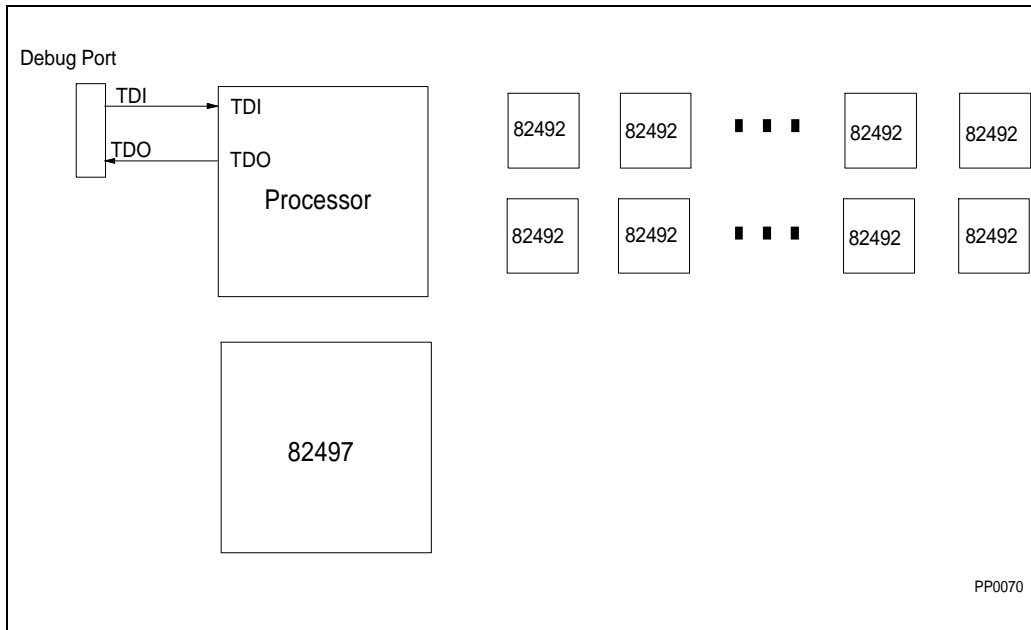
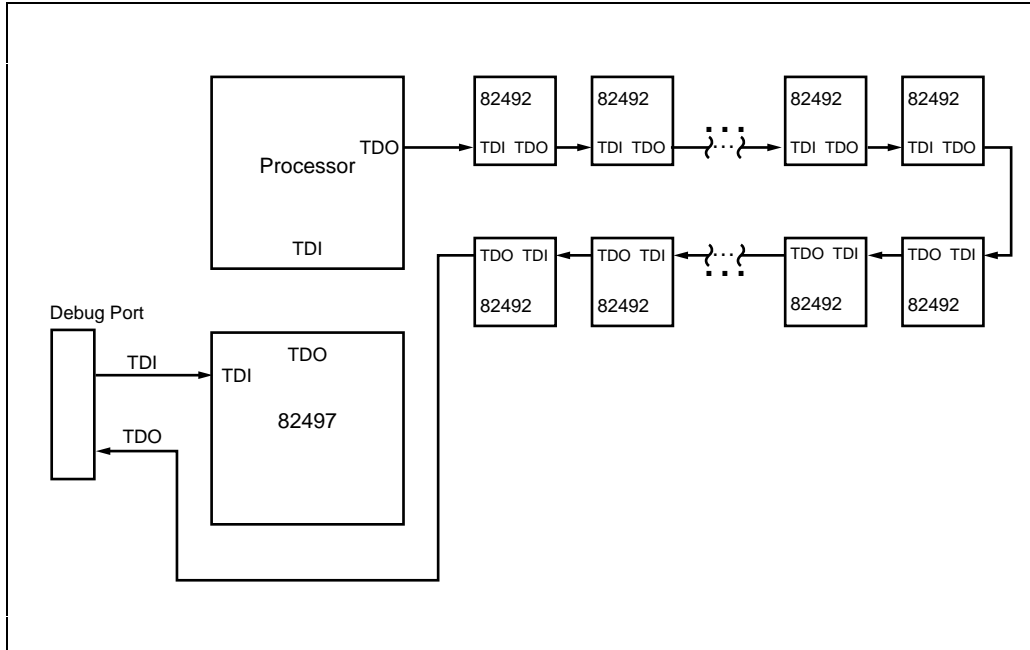

Figure 31-6. Example of CPU Only in Scan Chain
Figure 31-7. Example of Multiple Components in Scan Chain
The debugger software communicates with the CPU through the debug port using the boundary scan signals listed above. Typically, the debugger expects the CPU to be the first and only component in the scan chain (from the perspective of the debug port). That is, it expects TDI to go directly from the debug port to the TDI pin of the CPU, and the TDO pin to go directly from the CPU to the debug port (see Figure 31-6, below). If you have designed your system so that this is not the case (for instance, see Figure 31-7, below), you will need to provide the debugger software with the following information: (1) position of the CPU in the scan chain, (2) the length of the scan chain, (3) instruction register length of each device in the scan chain. Without this information the debugger will not be able to establish communication with the CPU.